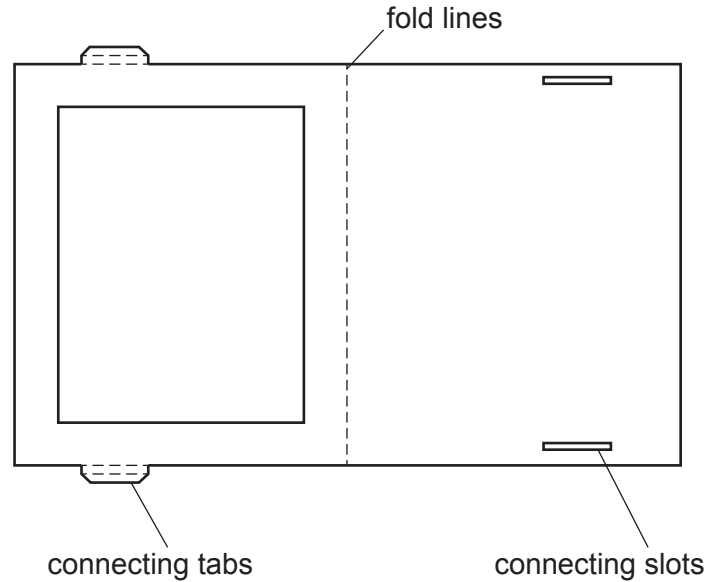

Fig. 1.1
- 1 Fig. 1.1 shows details of the development (net) of an A4 photo frame. The photo frame is to be made in a school workshop.